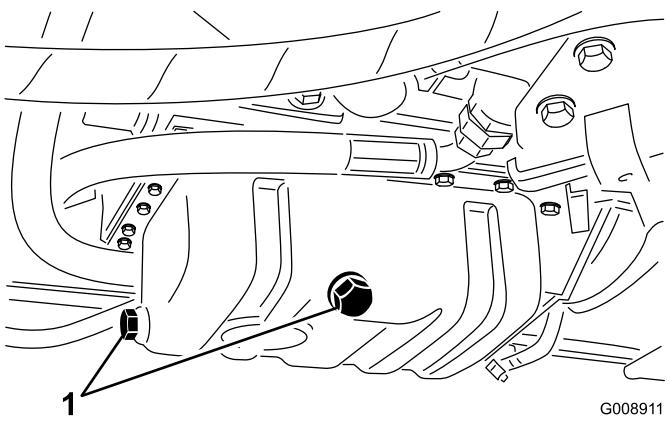

Figure 58
- Remove either drain plug (Figure 58) and let the oil flow into a drain pan; when the oil stops flowing, install the drain plug.